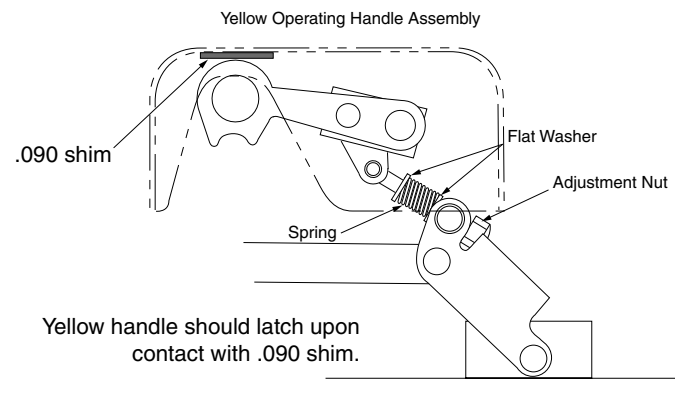

Figure 19.
Note: Adjust the yellow operating handle after the head is assembled and before the recloser mechanism is secured to the head. See Figure 19.
4. Place a .090 inch shim between the operating handle and the sleet hood. The yellow handle should latch upon contact with the .090 shim. See Figure 19.